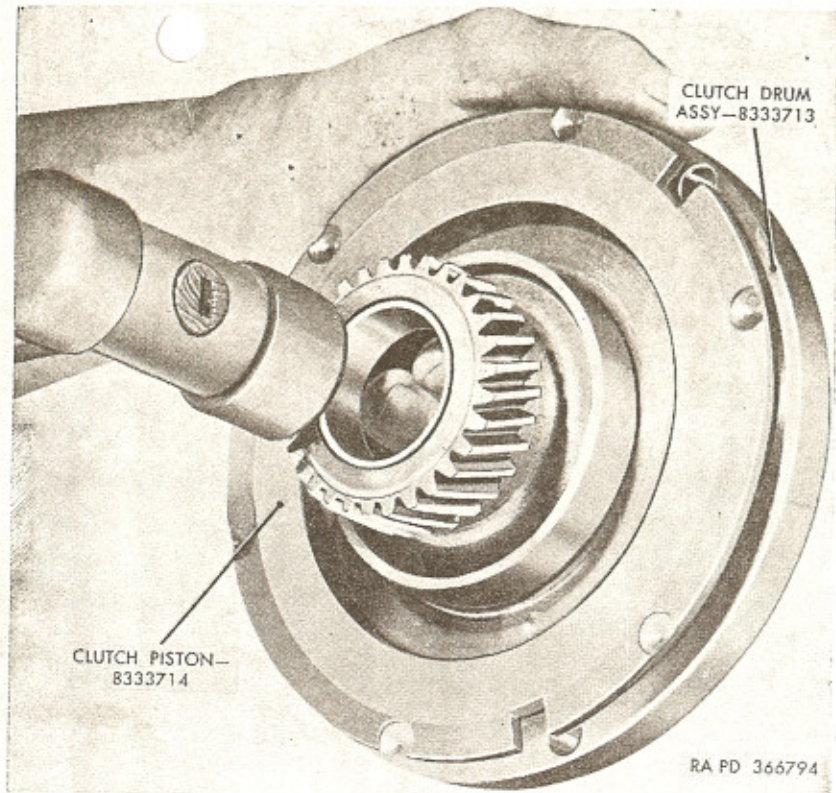

Figure 105. Removing clutch piston from clutch drum.
d. Hold clutch drum assembly (J) in hand with gear end of clutch drum up (fig. 105). Tap gear end with plastic hammer around face of gear, which will cause clutch piston to "walk" up out of clutch drum assembly (fig. 105).
d. Remove rear planetary unit from arbor press. Separate clutch drum assembly (B) from rear drum assembly (L) by tapping lightly on clutch drum rear thrust face, using a block of wood and hammer.
e. Remove six clutch outer release springs (K), six clutch inner release springs (J), and six clutch spring guide pins (H) from rear drum assembly (L).
f. Remove eight clutch driven plates (G) (steel) and nine clutch drive plates (F) (composition faced), as a unit, from rear unit drum. Do not separate plates.
g. Hold clutch drum assembly (B) in hand and tap against inner hub of drum with plastic hammer, in same manner used for front planetary unit (fig. 105). This will cause clutch piston (E) to "walk" out of clutch drum.